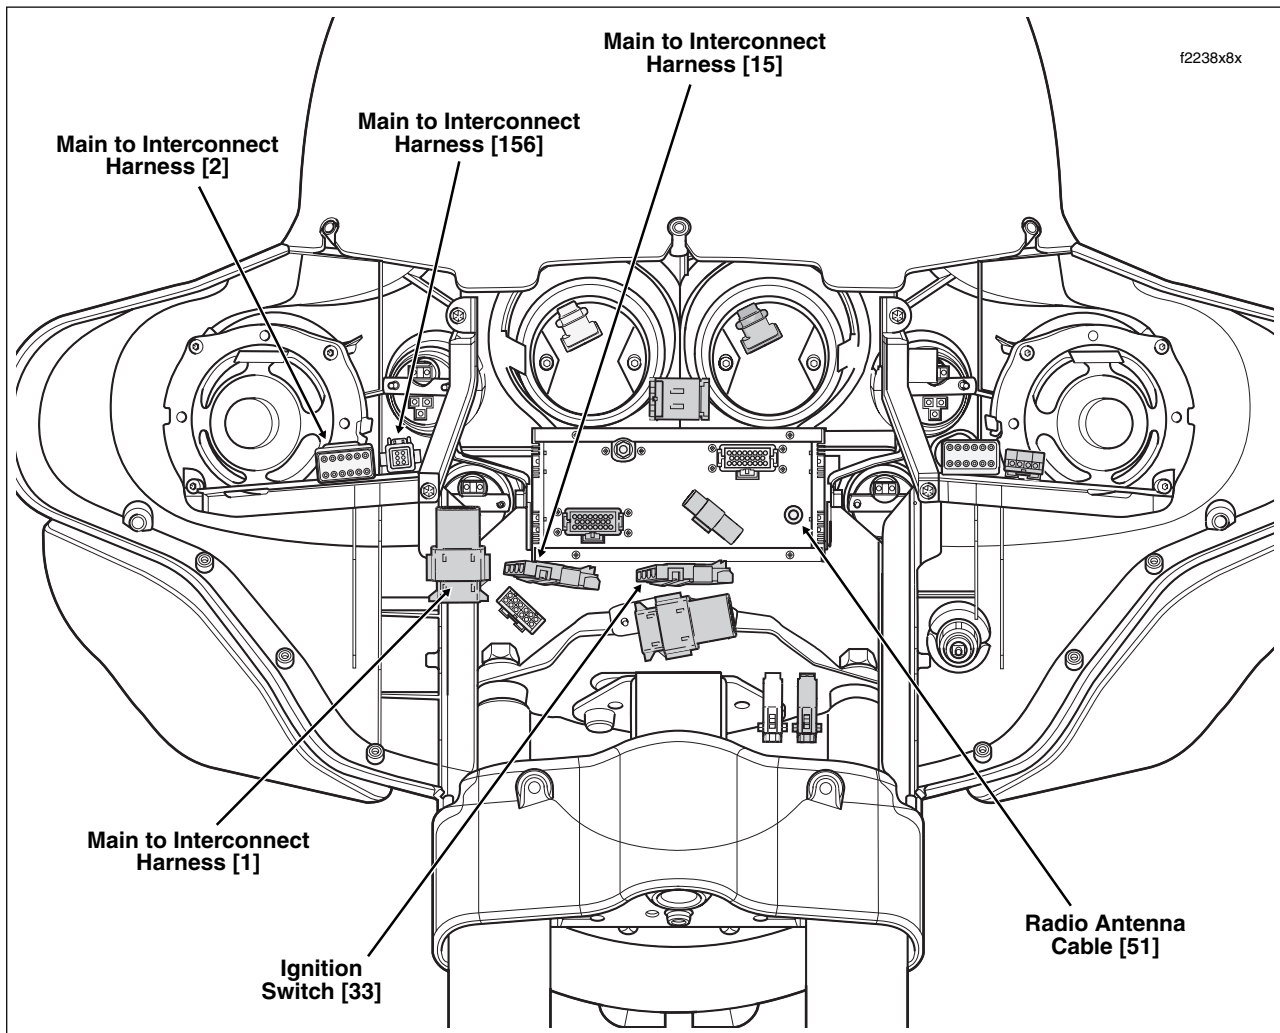

Figure 8-149. Inner Fairing - Main Harness Connectors (FLHTC/U)
2. See Figure 8-149. Disconnect main harness from interconnect harness as follows:
3. See Figure 8-149. Disconnect ignition switch from main harness. Disconnect radio antenna cable. Proceed as follows:
- a. Lay main harness on frame backbone so that front branches hang over top of right engine guard. On FLHR/C/S models, front branches terminate in headlamp and handlebar switch control connectors (see Figure 8-146). On FLTR and FLHT/C/U models, front branches terminate in the ignition switch, radio antenna cable and interconnect harness connectors (see Figure 8-149).